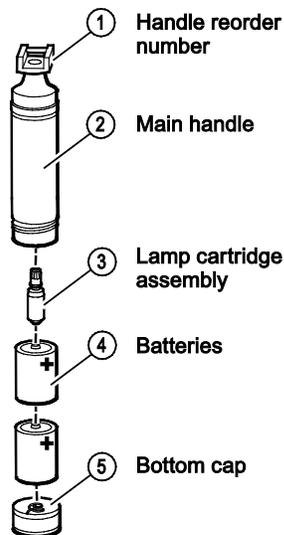
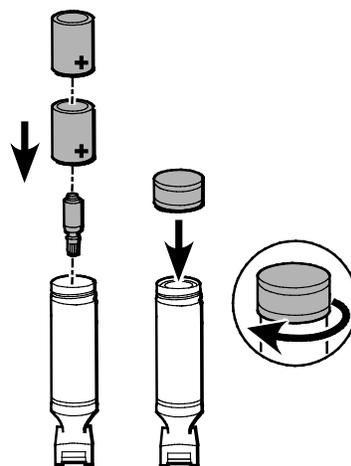

Figure 3
Figure 4
<p>Maintenance, Inspection and Testing</p>	<ol style="list-style-type: none"> 1. Inspect each component area for damage or deterioration. See Figure 3. <p>WARNING: Discard any component that shows evidence of damage or deterioration.</p> <p>Contact Welch Allyn for component replacement.</p> <ol style="list-style-type: none"> 2. Reassemble handle with new or batteries in known good condition. See Figure 4. 3. Attach handle to a clean and disinfected test blade assembly in known working condition. Verify that: <ul style="list-style-type: none"> • Blade assembly engages and locks onto handle. • Blade assembly deploys into its locked position on handle AND lamp illuminates. • Light output is satisfactory. <p>If the lamp fails to light or output is low, check or replace the lamp and/or batteries.</p>
Maintenance, Inspection and Testing	<ol style="list-style-type: none"> 1. Inspect each component area for damage or deterioration. See Figure 3. <ul style="list-style-type: none">  WARNING: Discard any component that shows evidence of damage or deterioration. Contact Welch Allyn for component replacement. 2. Reassemble handle with new or batteries in known good condition. See Figure 4. 3. Attach handle to a clean and disinfected test blade assembly in known working condition. Verify that: <ul style="list-style-type: none"> • Blade assembly engages and locks onto handle. • Blade assembly deploys into its locked position on handle AND lamp illuminates. • Light output is satisfactory <p>If the lamp fails to light or output is low, check or replace the lamp or batteries.</p>
Maintenance, Inspection and Testing	<ol style="list-style-type: none"> 1. Inspect each component area for damage or deterioration. See Figure 3. <div style="margin-left: 20px;">  <p>WARNING: Discard any component that shows evidence of damage or deterioration.</p> <p>Contact Welch Allyn for component replacement.</p> </div> 2. Reassemble with new or batteries in known good condition. See Figure 4. 3. Attach handle to a clean and disinfected test blade assembly in known working condition. Verify that: <ul style="list-style-type: none"> • Blade assembly engages and locks onto handle. • Blade assembly deploys into its locked position on handle AND lamp illuminates. • Light output is satisfactory. <p>If the lamp fails to light or output is low, check or replace the lamp and/or batteries</p>
3. Insert batteries and reinstall bottom cap. See Figure 4.